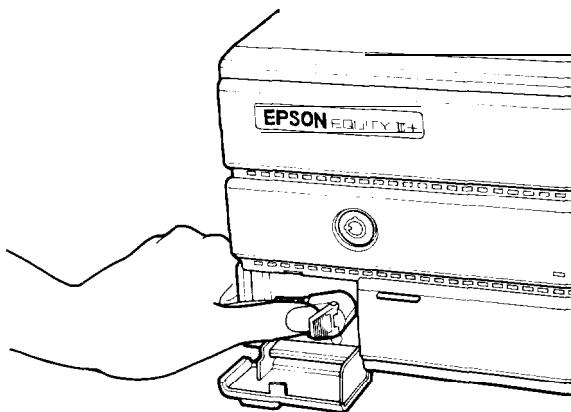

Figure 1-8. Plugging the keyboard cable into the main unit
3. Plug the other end of the cable into the keyboard socket, as shown in Figure 1-8. Do not force the connector, but be sure to insert it all the way.